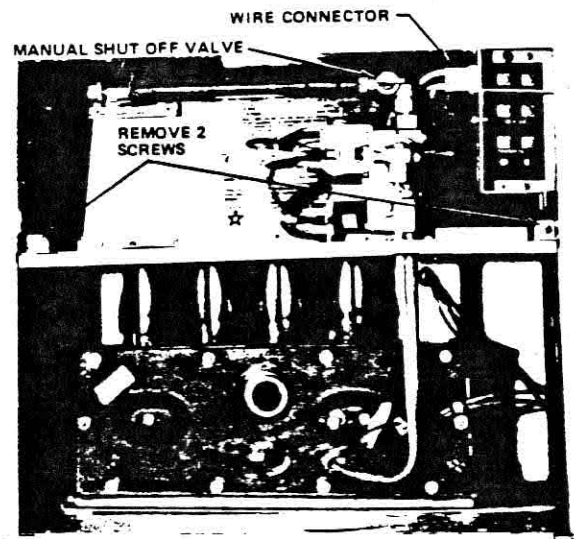

Figure 25
If the heat unit must be removed from the furnace casing, remove two (2) screws (figure 25), disconnect gas supply, disconnect the electric supply leads. Disconnect the electrical wire connector (plastic plug) on the side of the junction box. See figure 25. Slide the heat unit out of the furnace casing.